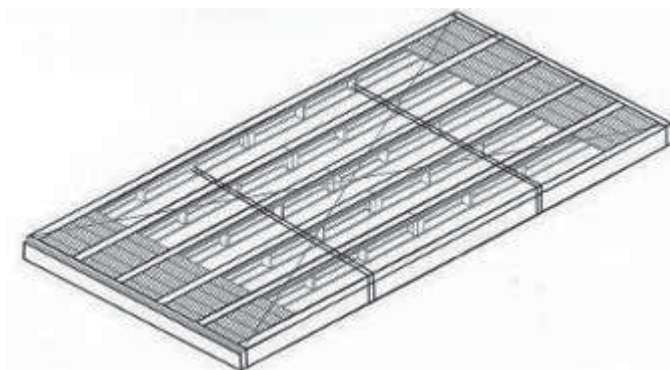

Fig. 2.4
4. Check that all the longitudinal pieces have been mounted perfectly perpendicular to the end heads, to do this measure the two diagonals between the corner of the anterior end head and the opposite corner of the anterior end head, if they show the same values we are certain that it is assembled correctly. and the error value should be less than 5mm (shown in Fig.2.4).